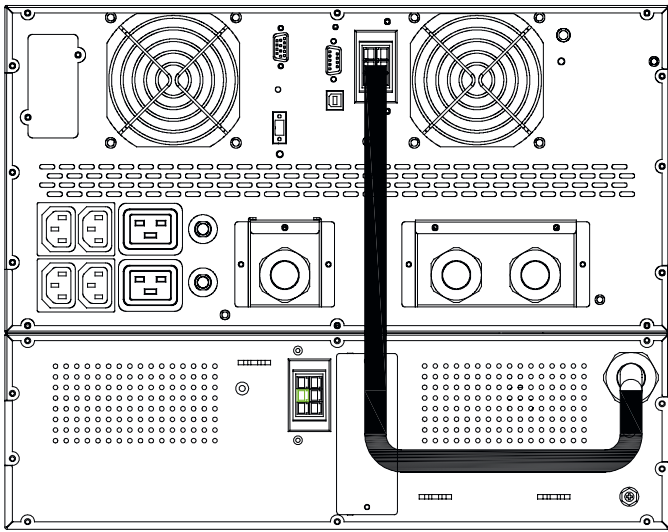

Figure 3: Battery Module Connections
1. Plug the battery module cable into the UPS battery connector in the rear panel of the UPS as shown in Figure 3.